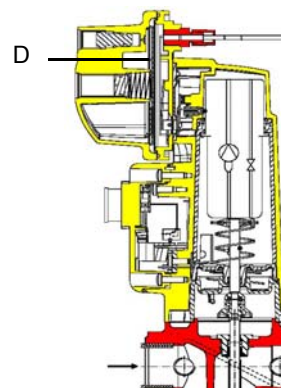

Fig. 13
**Caution:** the SKP2 diaphragm D must be vertical (see Fig. 13).